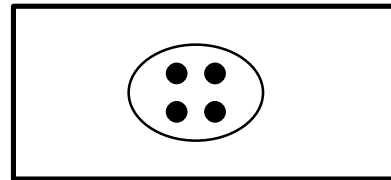

Figure 2
2. If a **SUNX FX-7 Sensor** is used, attach the sensor plug to the 4-pin jack on the right side of the Counter/Controller (Figure 2).